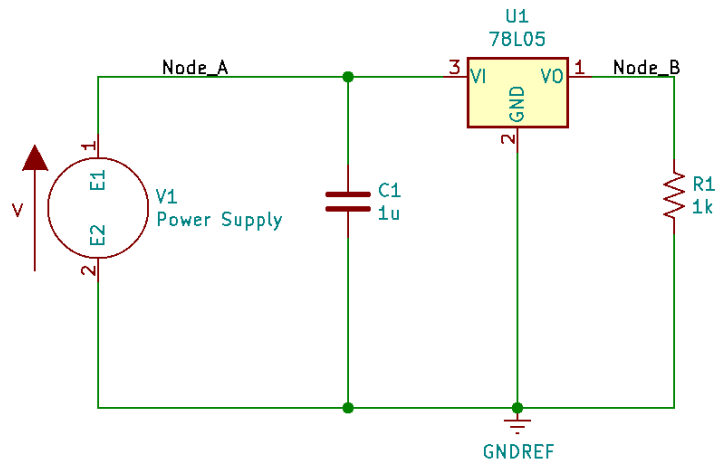
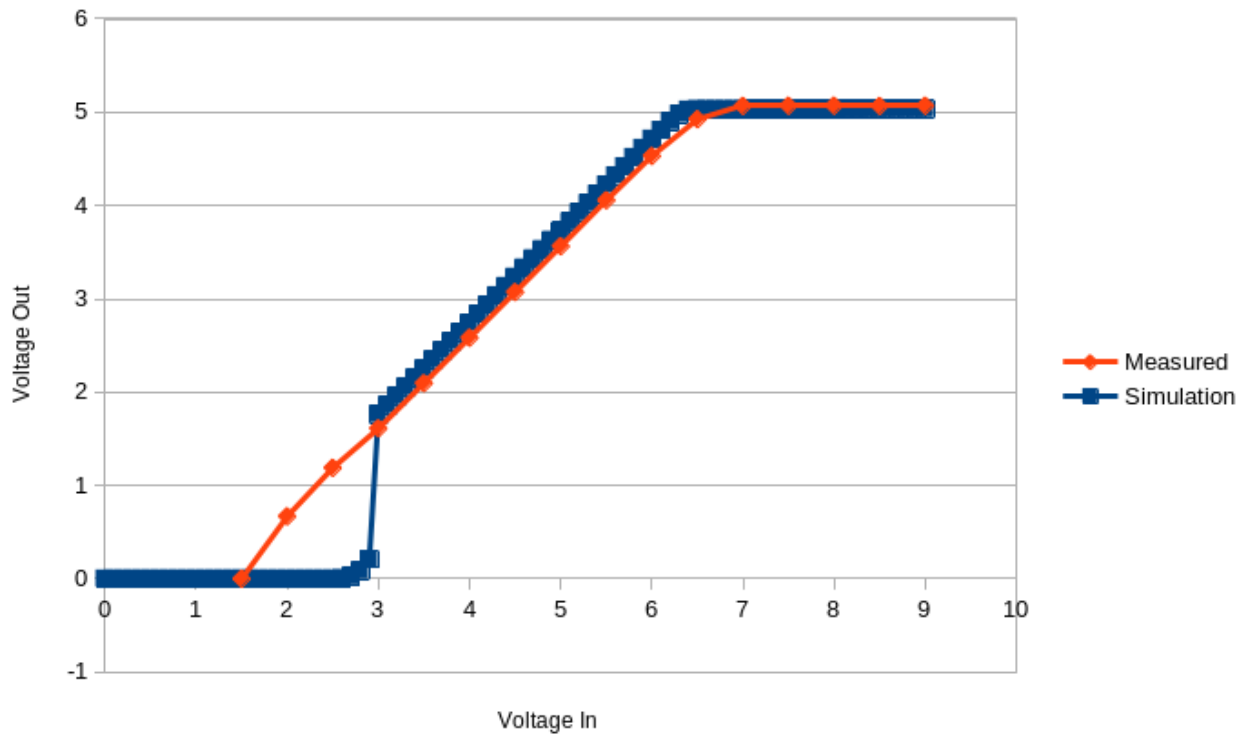

Figure 1: Schematic for the circuit used in this lab.
Figure 2: Voltage Out vs Voltage In. Measured output voltage, and simulation output voltage.
The circuit used in this lab is shown in figure 1. Node A is measured between the voltage source and ground. Node B is measured at the point between the regulator and the 1k resistor and ground. The differential voltage is measured at the input and output of the linear regulator. To measure the current through the 1k resistor the wire between the regulator and the resistor is removed and the probes are placed at the out leg of the regulator and one leg of the resistor.
Next we run a simulation of the circuit using OrCad. The results of the simulation can be found in figures (1) and (2) plotted with my own measurements (figure 1) and with the rest of the classes measurements (figure 2). In figure 1 we can see that the measured results start aligning with the simulation around 3 volts.
In figure 2 we see that many of the measurements do not align with the expected output. I suspect the measurements that are still linear after 6.5 volts had the probes in the wrong place and/or had their circuits wired wrong. The measurements that follow the curve but are higher than expected might not have nulled their multimeters.